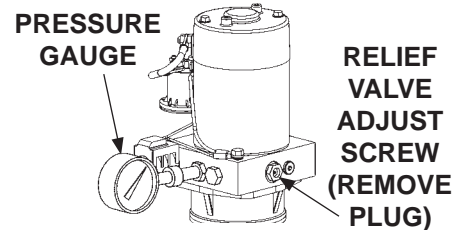

FIG. 37-2
9. With platform on the ground, remove the pressure hose and fitting from the pump and replace it with a 0-4000 PSI pressure gauge. Hold the control switch in the "raise" position. Adjust the relief valve on the side of the pump until the gauge shows 3250 PSI (**FIG. 37-2**). Remove gauge and reinstall pressure hose.